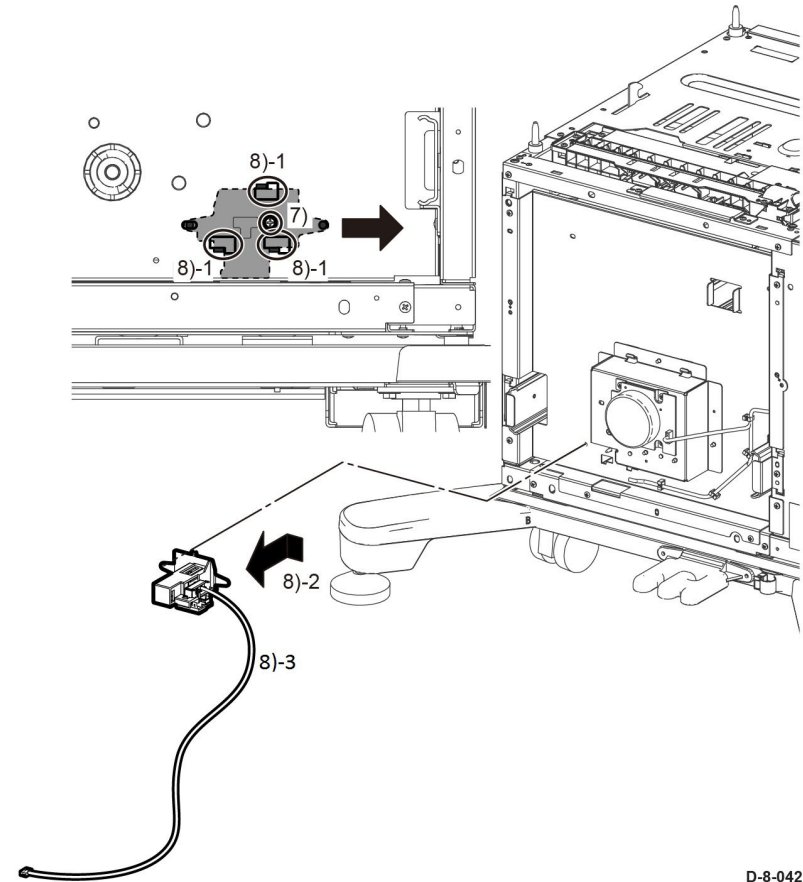

Figure 2 Rear interlock switch removal
7. Remove one screw, ST20, Figure 2.
8. Perform the steps that follow, Figure 2: